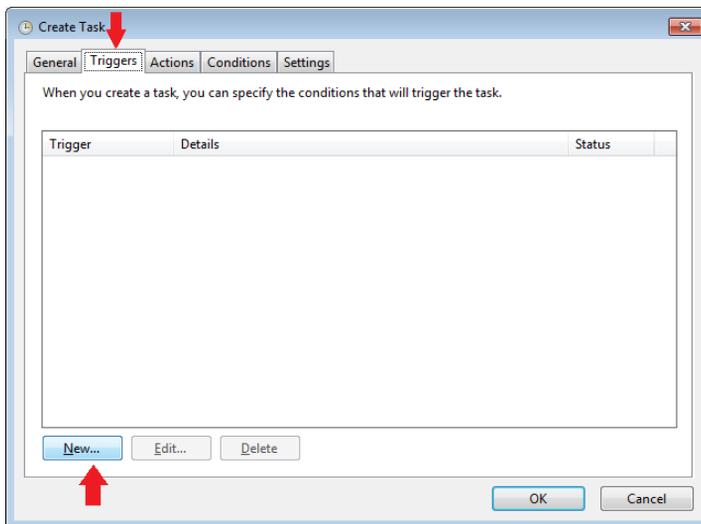

Figure 12 Triggers
- Schedule the data backup process as needed from **Triggers > New** (Figure 12). Agilent recommends that you do not schedule the backup task and the full virus scan to be executed at the same time.